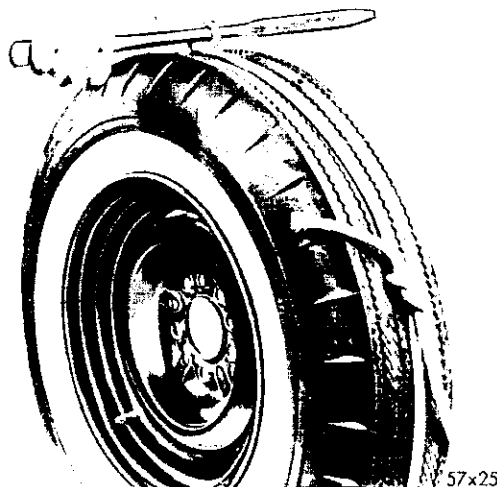

Fig. 7—Expanding Tire Beads (Rope Tourniquet)
(2) Place one bead over the rim of the wheel, working the entire bead into the low section of the rim.
(3) Place the other bead over the wheel rim and work the entire bead into the low section of the rim.
(4) While applying the air through the valve stem, strike the tread sharply with a rubber hammer to force both beads outward over the raised rim section. It may be necessary to use bead expander Tool C-3440 (Fig. 6) or a rope tourniquet (Fig. 7).
(5) When both tire beads are fully seated, adjust air pressure to specifications.